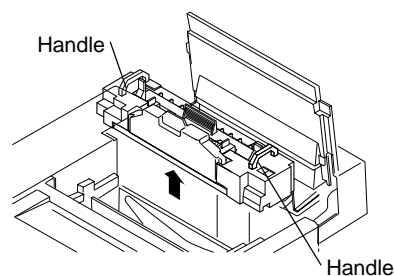

Fig.6-15
- 4) Holding the handles at both ends of the fusing unit and remove the fusing unit from the printer. (Fig.6-15)